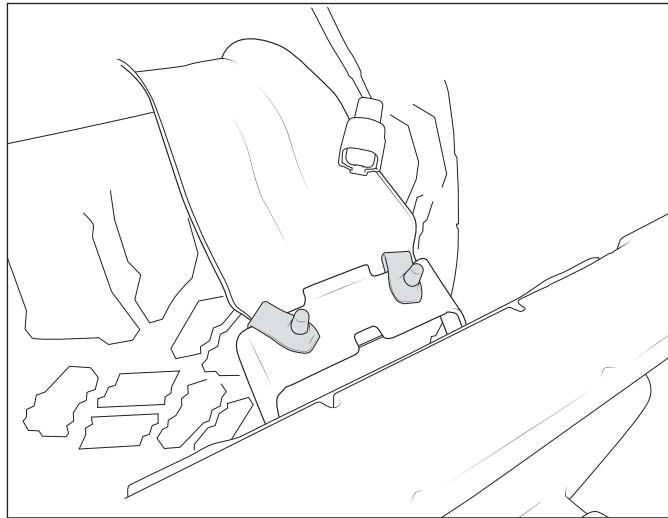

Figure 4
4. Remove 2 M8 bolts holding hitch to rear tire support and SAVE for re-use (fig. 4).